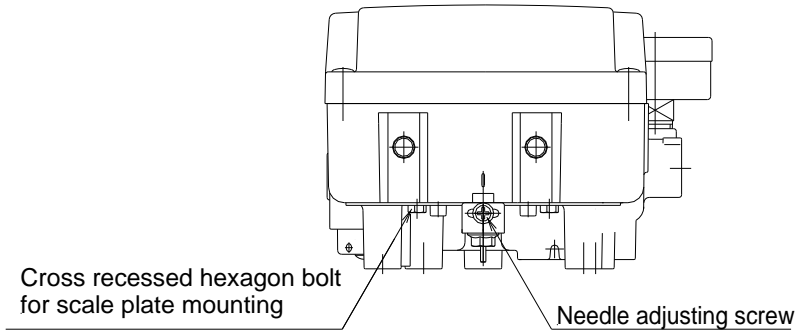

Fig.25 Positioning of needle
- (2) Stop positioner at intermediate opening of actuator (where input signal of 50% finishes to enter to the positioner) and adjust the position of needle to meet with 50+% of scale plate. (Refer to Fig.25) If the needle can't be met with 50+% even with adjustment, stop pressure supply once, reposition fork lever type fitting and cam, and readjust zero span.